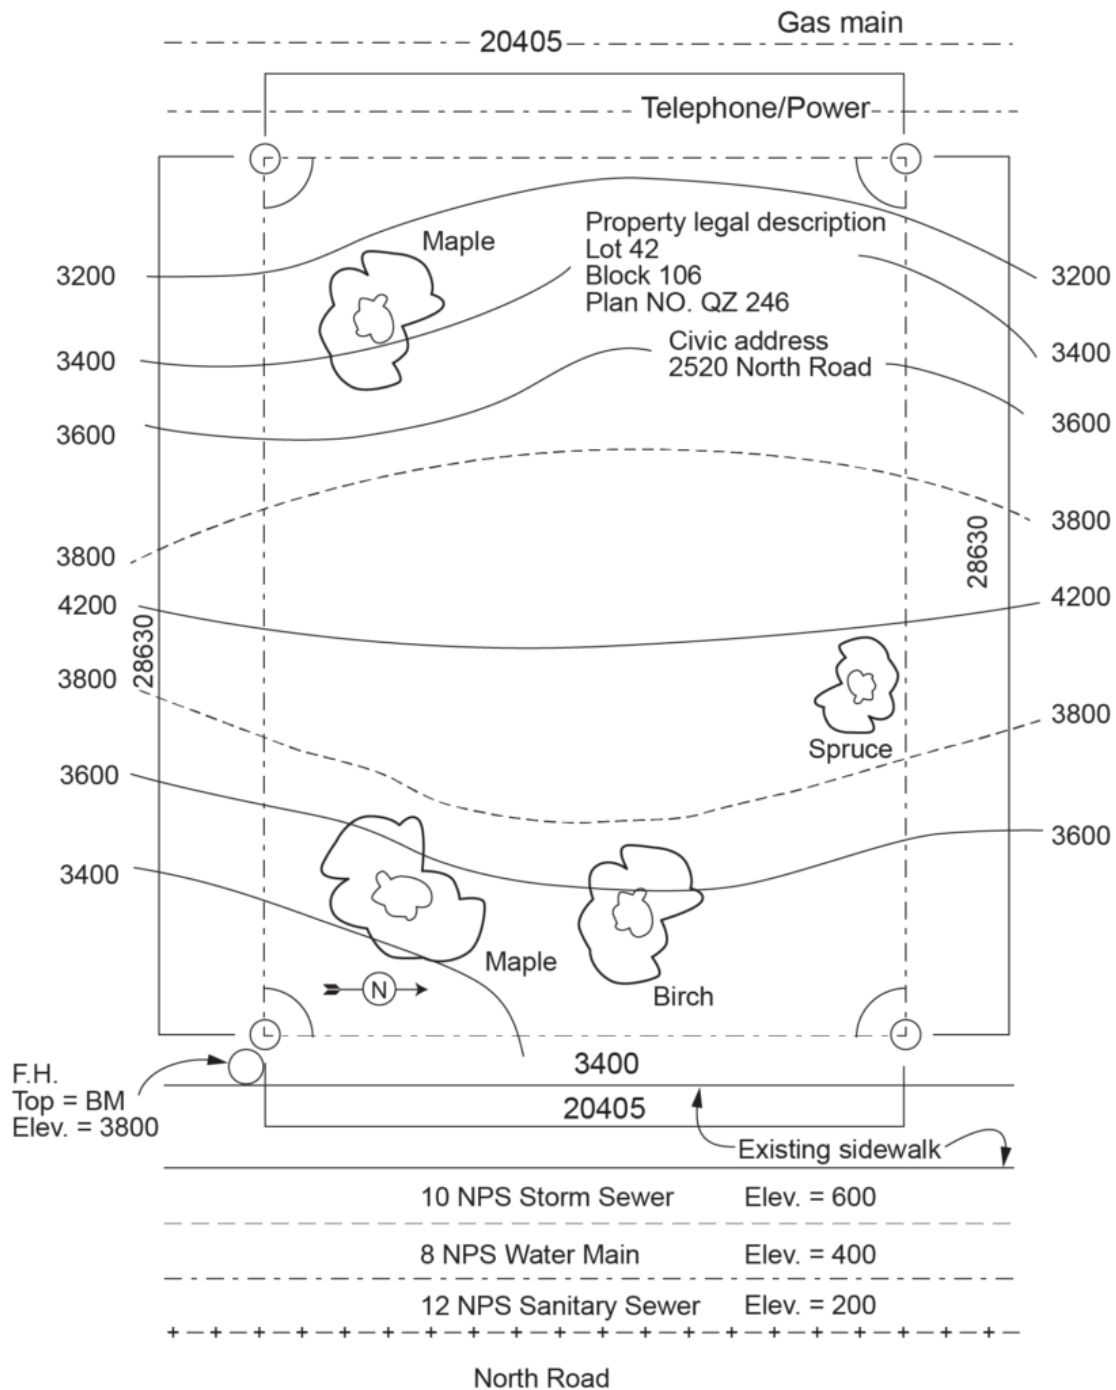
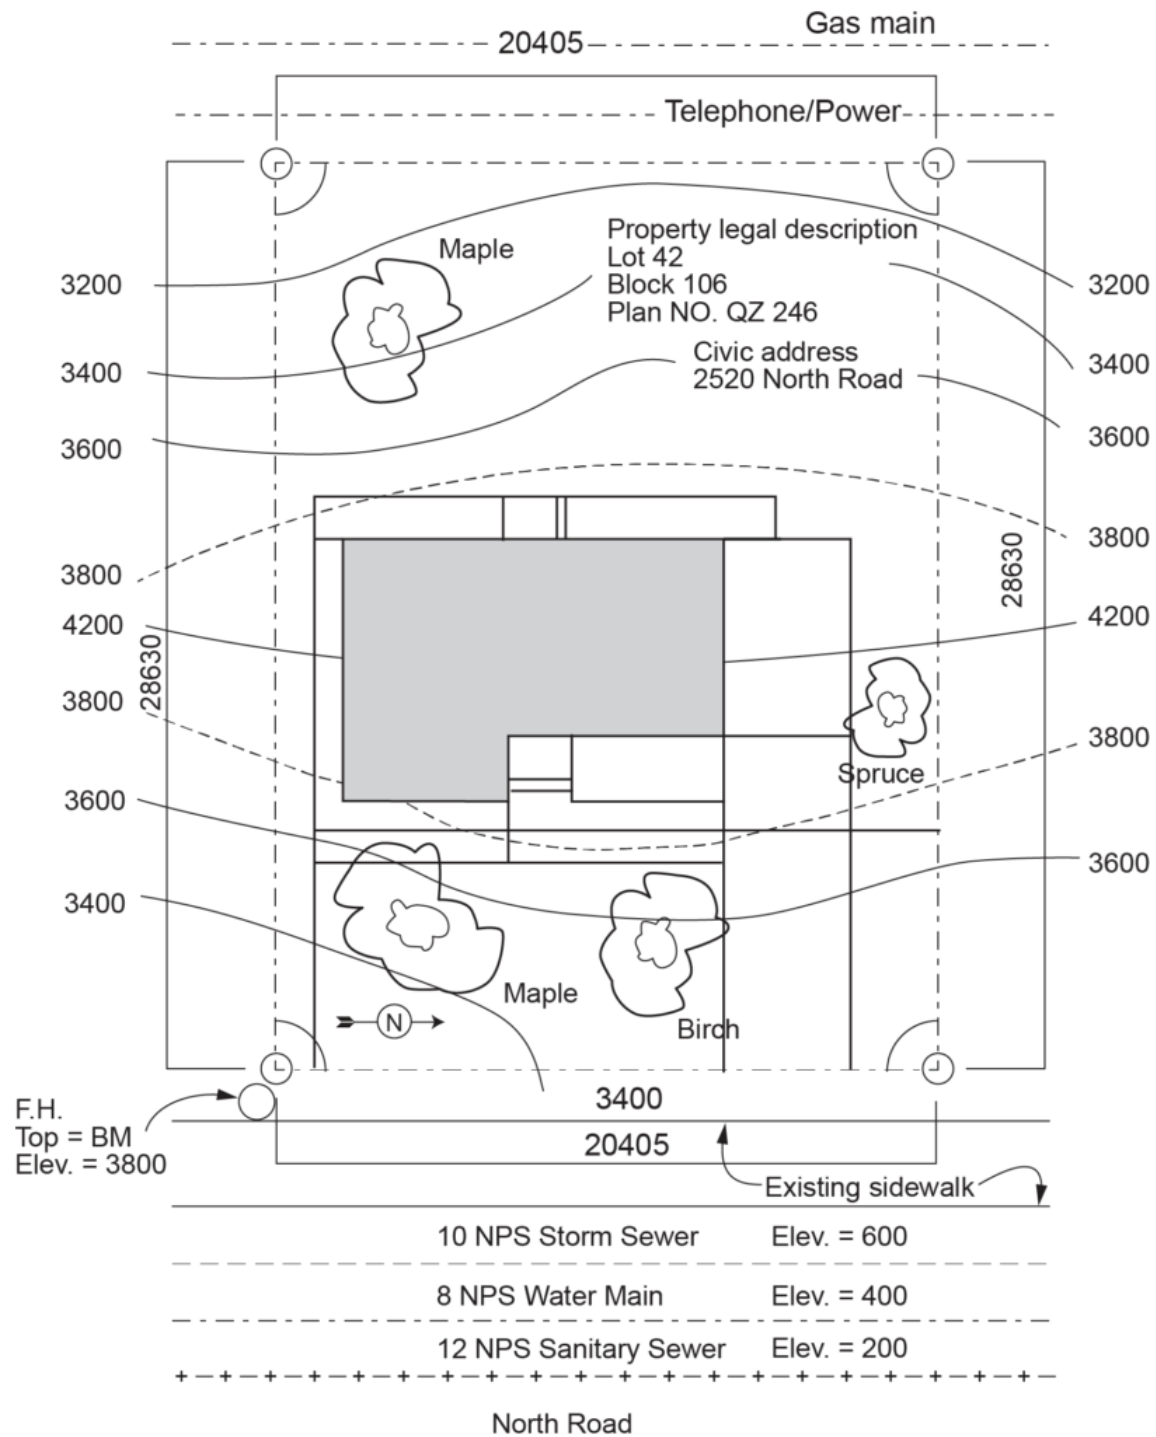

Figure 1 Plot plan. (Skilled Trades BC, 2021) Used with permission.
Figure 2 Site plan. (Skilled Trades BC, 2021) Used with permission.
- **site plan:** A drawing that shows the layout of the building and how it fits on the land, including things like roads, utilities, and the property boundaries. It is a plot plan with a basic outline of the building superimposed on it, which helps understand the location and surroundings of the building. (Figure 2, Section D-2.1)
Figure 1 is a plot plan in metric.
The **site plan** is a plot plan with a basic outline of the building superimposed on it. Figure 2 shows a site plan based on the plot plan of Figure 1. The site plan clearly shows the building's location and its services. The storm sewer, water main, and sanitary sewer are on the east side of the property. Their diameters are given in the legend as 10 NPS, 8 NPS, and 12 NPS, respectively.